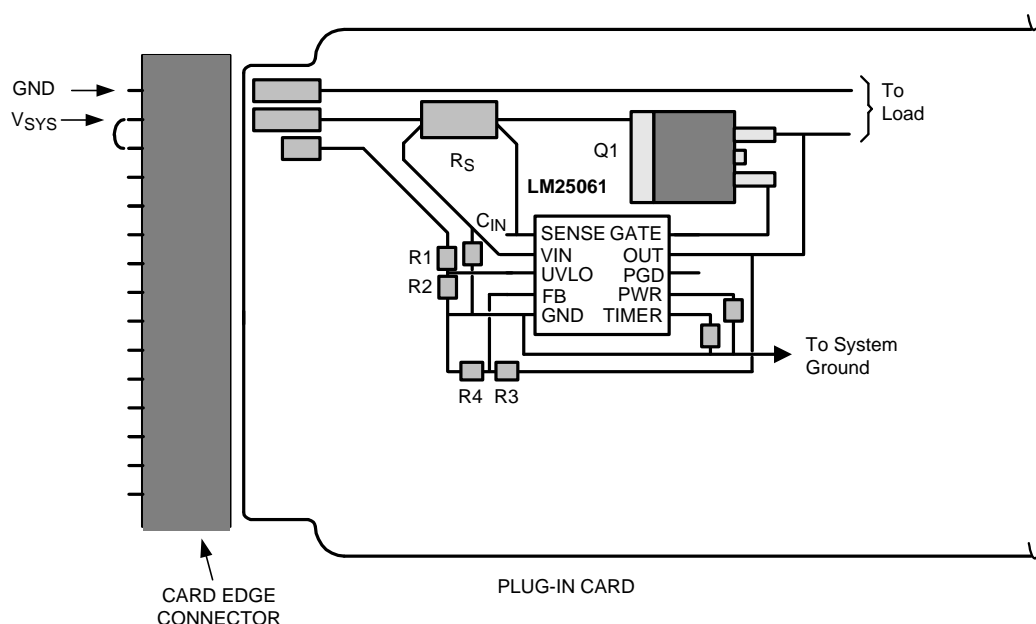

Figure 36. Recommended Board Connector Design
- The board's edge connector can be designed to shut off the LM25061 as the board is removed, before the supply voltage is disconnected from the LM25061. In Figure 36 the voltage at the UVLO pin goes to ground before V_{SYS} is removed from the LM25061 due to the shorter edge connector pin. When the board is inserted into the edge connector, the system voltage is applied to the LM25061's VIN pin before the UVLO voltage is taken high.